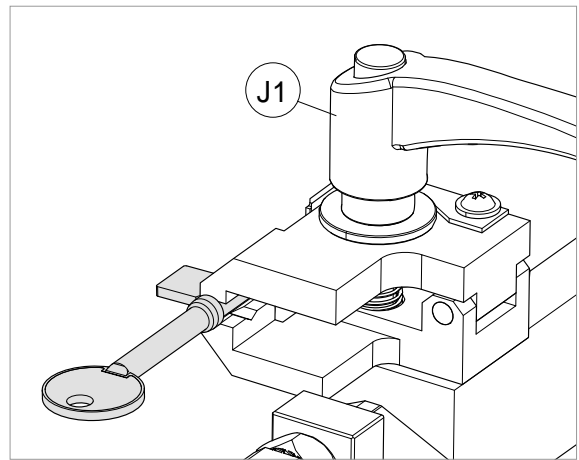

Fig. 28
- 2) Insert the original key into the left-hand clamp with the central stop up against the clamp (left-hand side) and the bit parallel to the clamp (Fig. 28); tighten the handle (J1) to secure the key.
- 4) Start the machine with switch (K) and proceed with cutting.
- 5) Move the carriage with lever (A) to take the original key cuts into contact with the tracer point.
- 7) When cutting is finished, turn off the switch (K) and remove the keys.